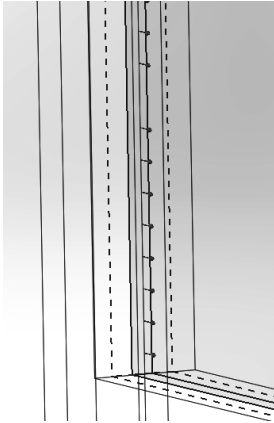
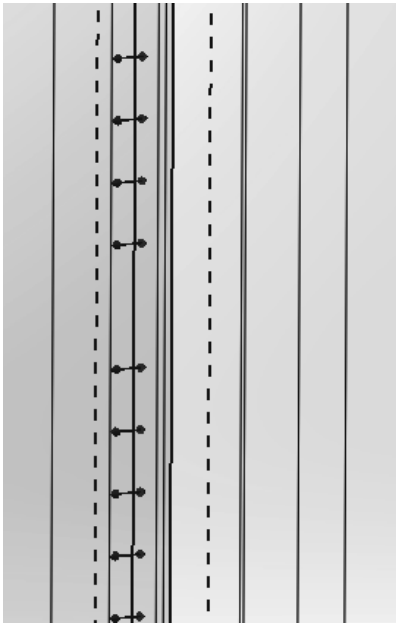

Figure 2.17d) Inlet velocity boundary condition indicated by arrows
Figure 2.18b) Outlet static pressure boundary condition
18. Red arrows pointing in the flow direction indicate the inlet velocity boundary condition, see figure 2.17d). Right click in the graphics window and select **Zoom to Fit**. Right click again in the graphics window and select **Rotate View** once again to rotate the part so that the inner right outlet surface is visible in the graphics window. Right click and click on  **Select**. Right click on  **Boundary Conditions** in the **Flow Simulation analysis tree** and select **Insert Boundary Condition....** Right click on the outflow boundary surface and select **Select Other**. Select the Face corresponding to the outflow boundary. Click on the **Pressure Openings** button in the **Type** portion of the **Boundary Condition** window and select **Static Pressure**. Click **OK** to exit the window. If you zoom in on the outlet boundary, you will see blue arrows in both directions indicating the static pressure boundary condition, see figure 2.18b).